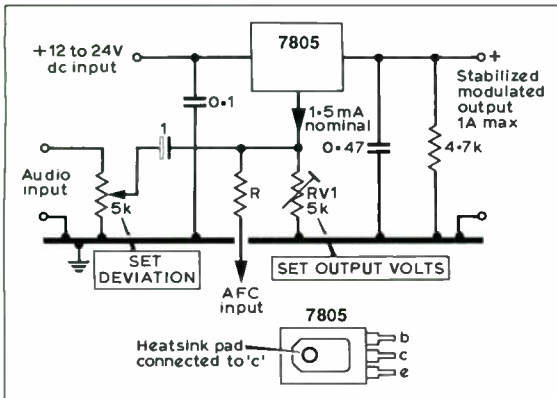

Fig 10.7. Basic circuit for a variable-voltage stabilised Gunn PSU
Fig 10.7 shows the basic circuit of a stabilised variable bias supply which was originally designed for the London 10GHz beacon GB3LBH (now no longer operating). It uses a 7805 positive voltage integrated circuit (IC) regulator often used in computer equipment to supply a fixed 5V supply to logic circuits. It will supply up to 1A when used with a suitable heatsink and has built-in short-circuit and thermal protection. Although the regulator was designed for a fixed output, by fitting a 'pedestal' resistor between connection C and earth, the output voltage can be increased up to within 2.5V of the input voltage, by an amount equal to the voltage drop across this resistor. The maximum input voltage to the regulator is 25V. The resistor is also a convenient way to apply modulation to the output voltage, as shown.